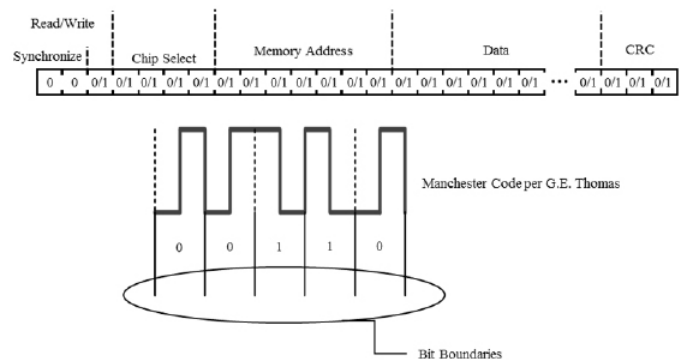

Figure 27: Manchester Bit-Stream Definition
The general format of a command message frame is shown in Figure 27. Note that, in the Manchester coding used, a bit value of 1 is indicated by a falling edge within the bit boundary, and a bit value of zero is indicated by a rising edge within the bit boundary. The time period for the bit boundary is determined by the baud rate initiated by the external controller. The A31316 read acknowledge is transmitted at the same rate as the command message frame. The bits are described in Table 25.
- For a read acknowledge or write frame, the data bits are defined as shown in Figure 27, where bit 0 is the LSB.